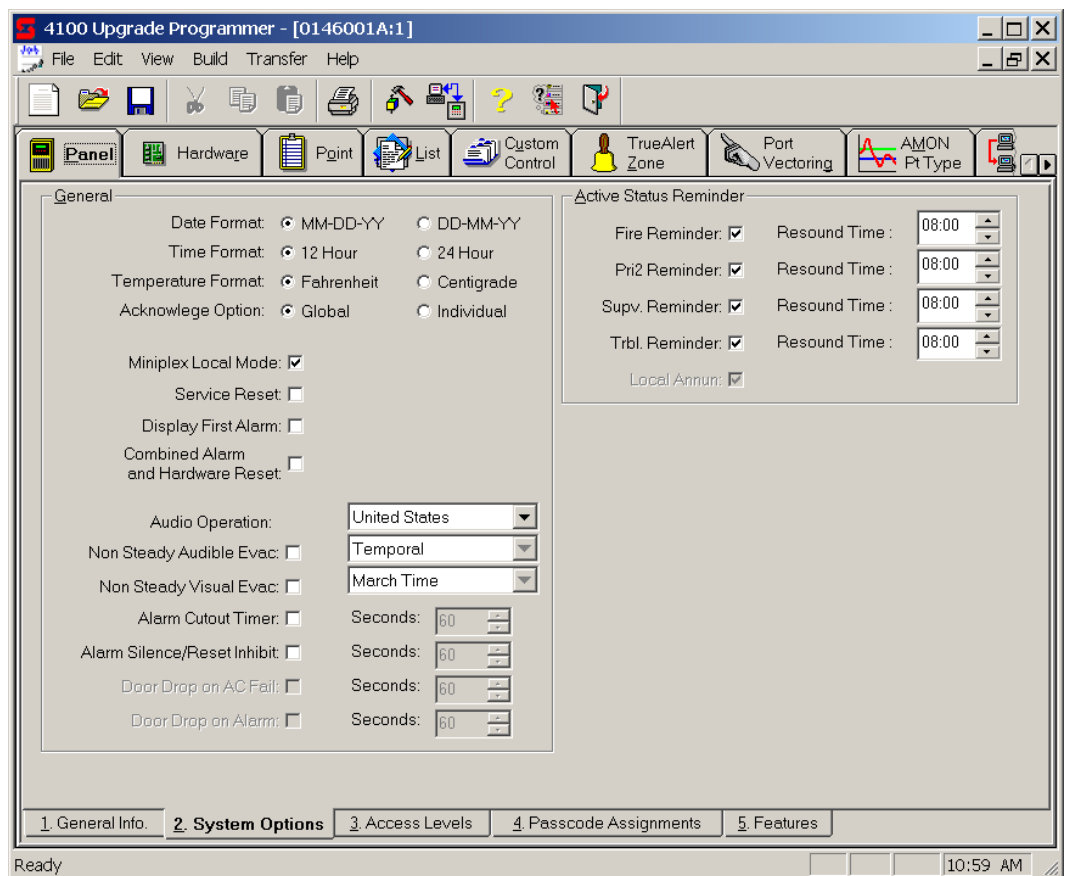

Figure 4-2. System Options
2. Click on the System Options tab at the bottom of the programmer. A screen similar to the one shown in Figure 4-2 appears.